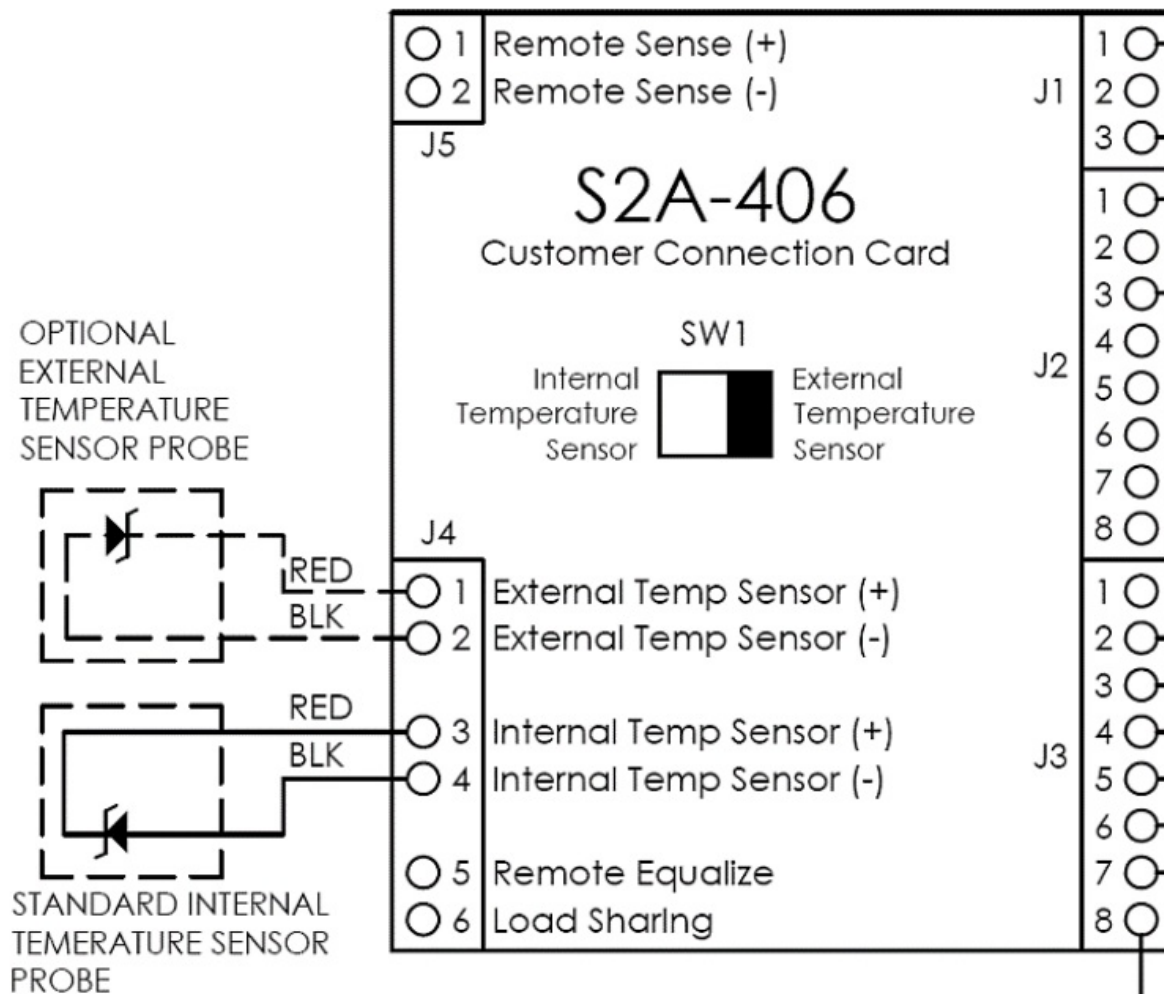

Figure 3 – External Temperature Compensation Connections (TPSD2 Chargers Only)
2. Toggle the SW1 switch on the S2A-406 board to the External position. Refer to the Figure 3.